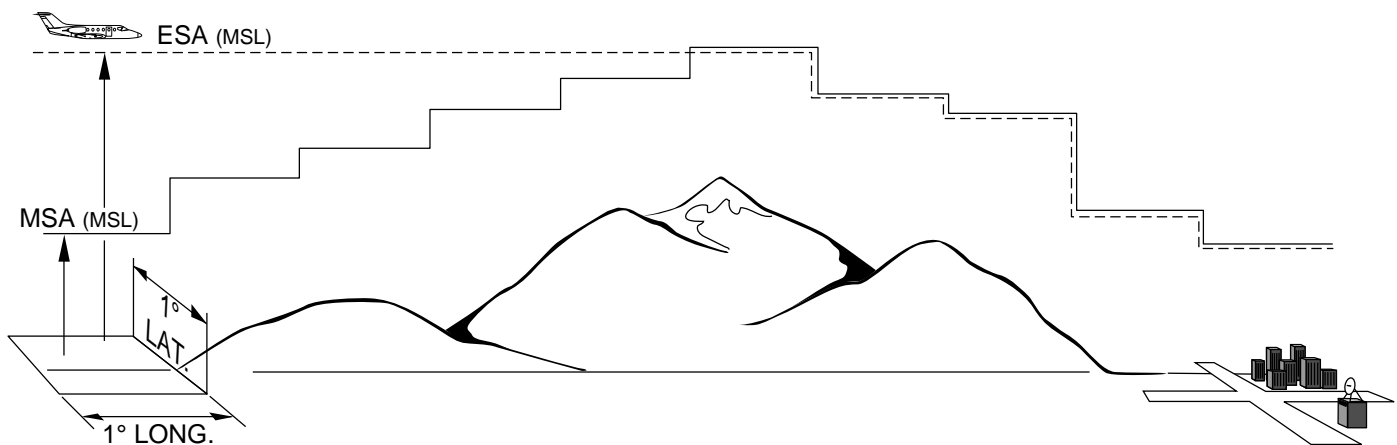

Figure 3-106
- Minimum Enroute Safe Altitude (**ESA**). **IMPORTANT:** When the KLN 900 is in the Leg mode, the minimum enroute safe altitude is the highest MSA sector altitude from the present position to the active waypoint, then to the destination waypoint along the active flight plan. See figure 3-106. When the KLN 900 is in the OBS mode, the minimum enroute safe altitude is the highest MSA sector altitude from the present position to the active waypoint.